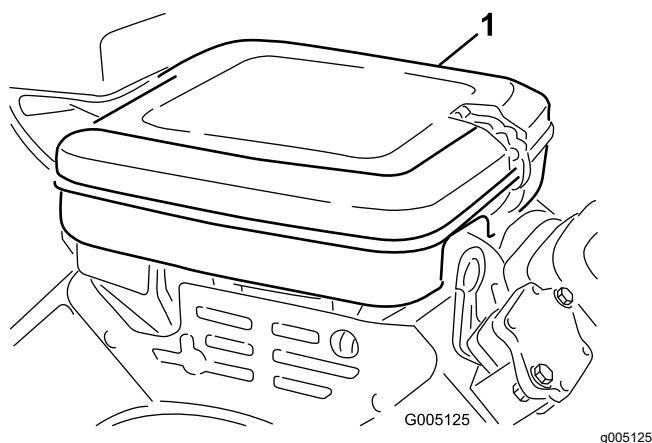

Figure 25
1. Clean the air-cleaner cover (Figure 25).